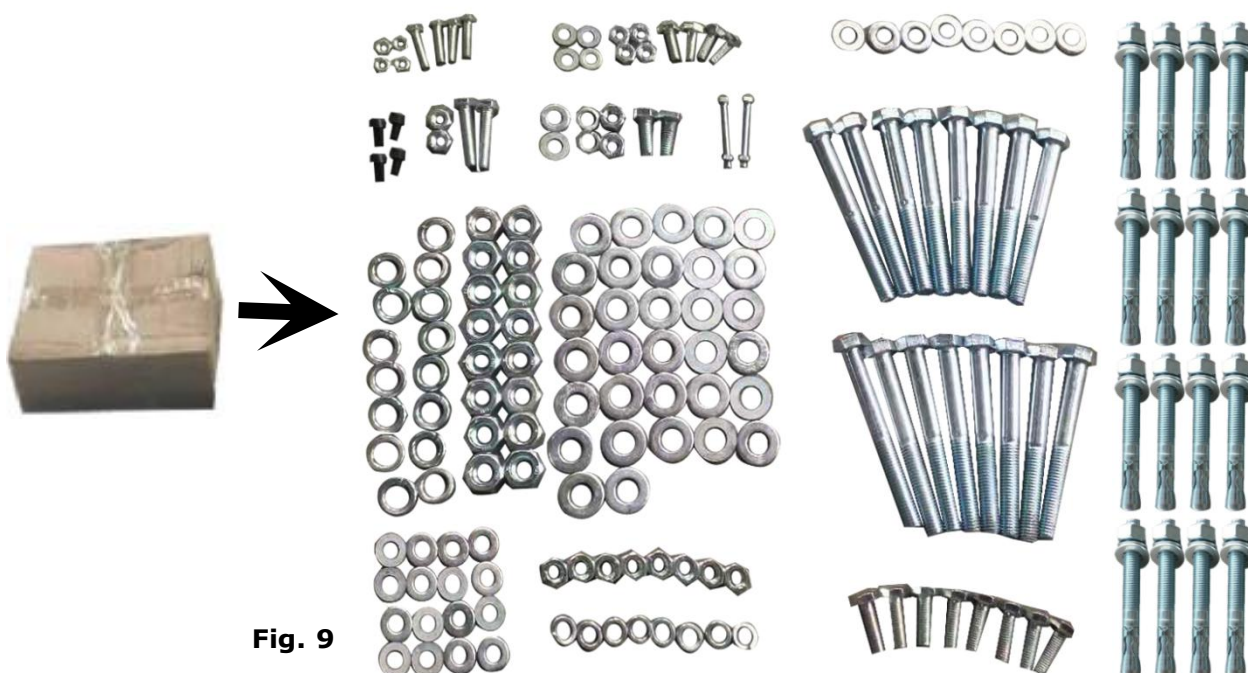

Fig. 9
6. Check the parts of the parts bag (See Fig. 9).